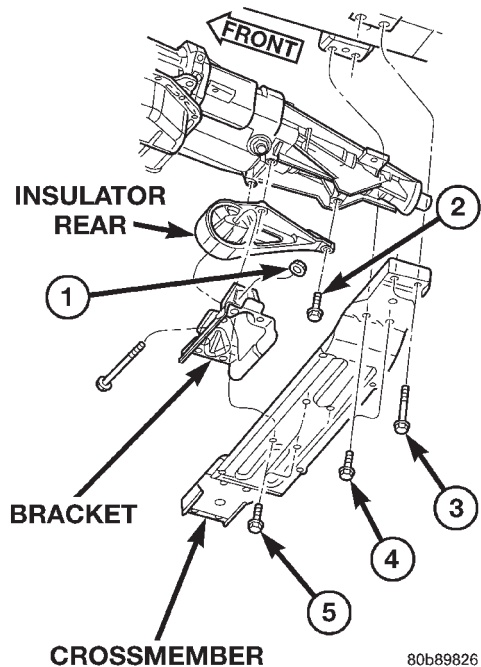
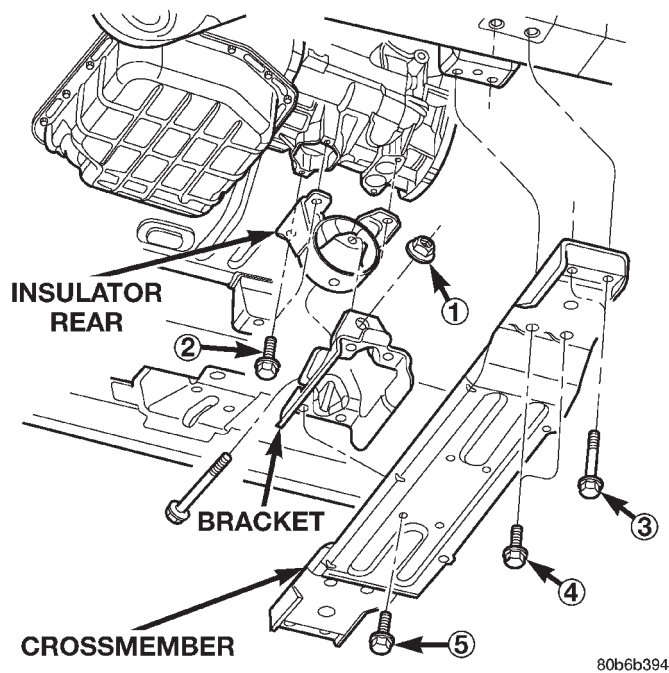

Fig. 25 Rear Engine Mount—(4X2)
Fig. 26 Rear Engine Mount—(4X4)
- (1) Disconnect the negative cable from the battery.
- (2) Raise the vehicle and support the transmission.
- (3) Remove the bolts holding the isolator mount assembly to the transmission (Fig. 25) (Fig. 26).
- (4) Raise the transmission SLIGHTLY.
- (5) Remove the through bolt and nut. Remove the rear isolator mount assembly.
- (6) If necessary, remove the bolts holding the rear mount bracket to the crossmember.